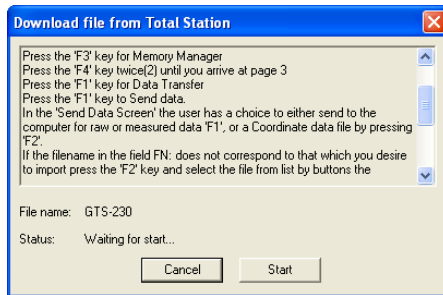

Figure 3-43. Total Station Instructions – Preparing for Import
7. Follow the all the steps listed in the **Download File From Total Station** dialog box to prepare the Total Station (Figure 3-43).